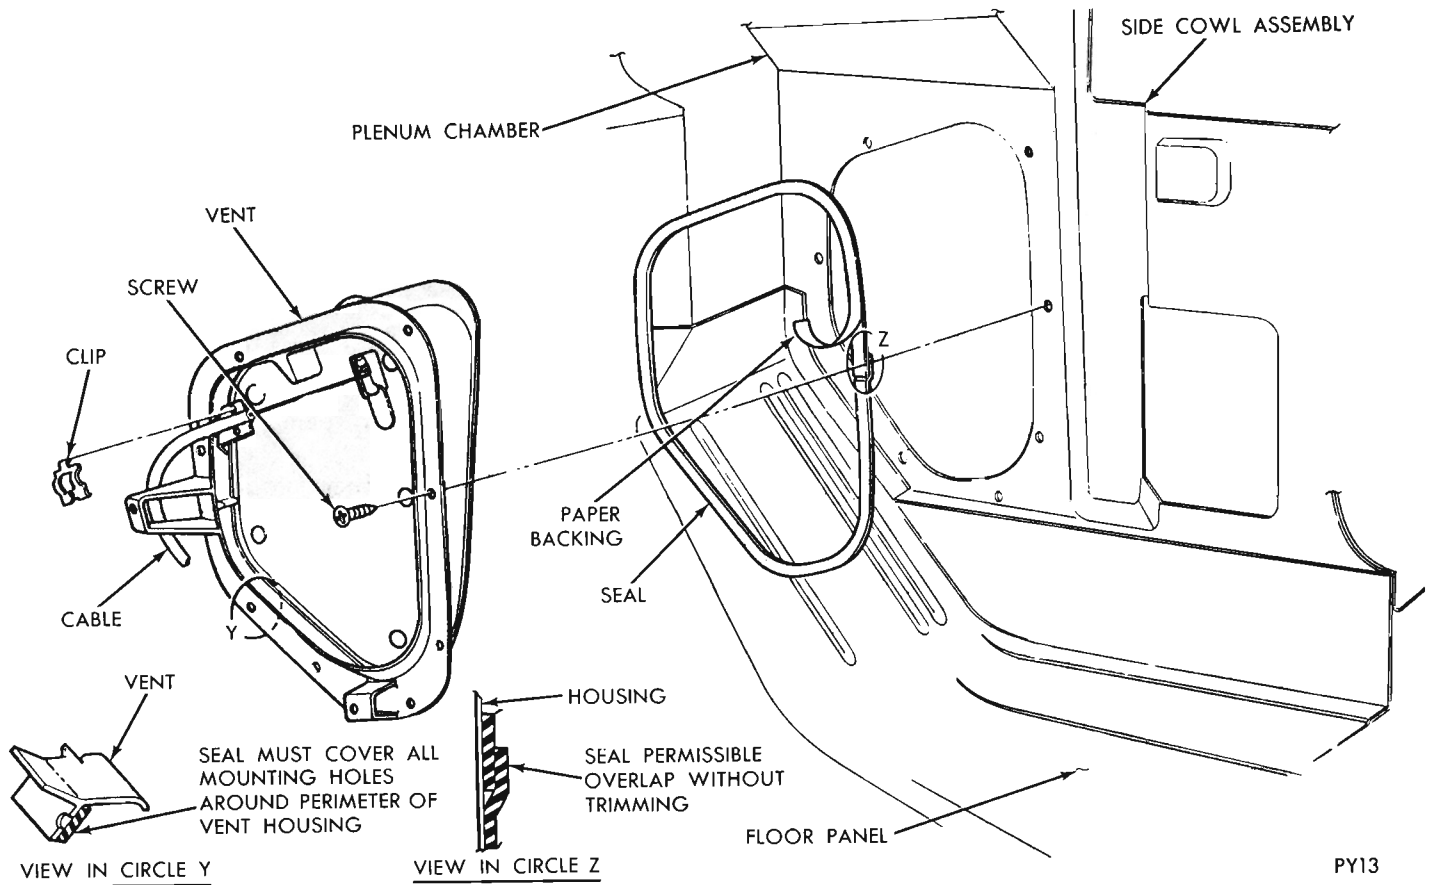

Fig. 3 - Outside Air Vents
Door adjustment is controlled by the cable housing attachment at the door bracket (Fig. 3). Loosen clip screw attaching the housing to the door
**Removal (Fig. 3)**
- (1) Remove cowl side trim panel and silencer.
- (2) Remove actuator cable housing to door bracket clip.
- (3) Slide cable off of pin on door and out of door frame flange.
- (4) Remove door to cowl side panel screws.
- (5) Remove door and seal assembly and inspect seal for damage.
- (2) Position seal in line with outer edge of housing flange (Fig. 3).
- (3) Position air door on cowl side panel, align attaching holes, install attaching screws and tighten progressively.
- (4) Insert actuator cable assembly, through hole in door frame flange and install coiled end of cable over pin on door.
- (5) Position clip over cable and attach to door bracket.
- (6) Adjust vent door cable housing and install trim panel and silencer.